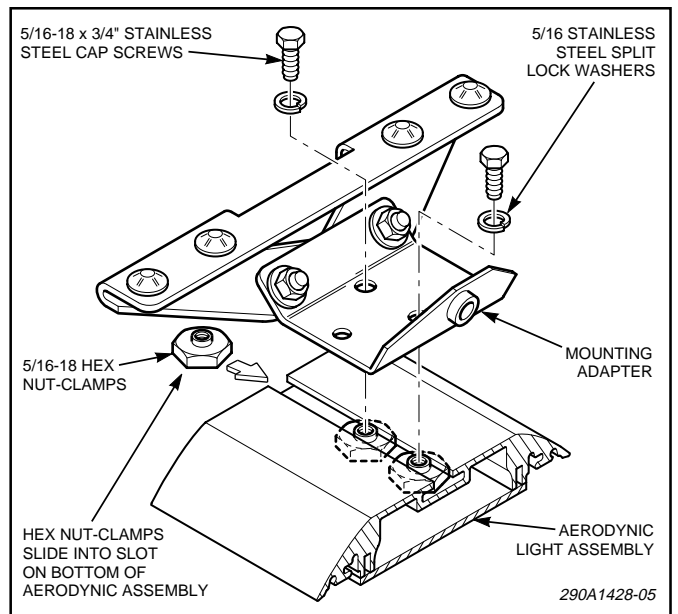

Figure 4.
e. Assemble the two large 5/16-18 hex nuts (8542A134) to each mounting adaptor with 5/16-18 x 1/2" hex head bolts and split lockwashers as shown in figure 4.
f. Slide the two hex nuts of a mounting bracket assembly into the slot in the extrusion as shown in figure 4. Slide the two hex nuts of the other mounting bracket assembly into the same extrusion slot.